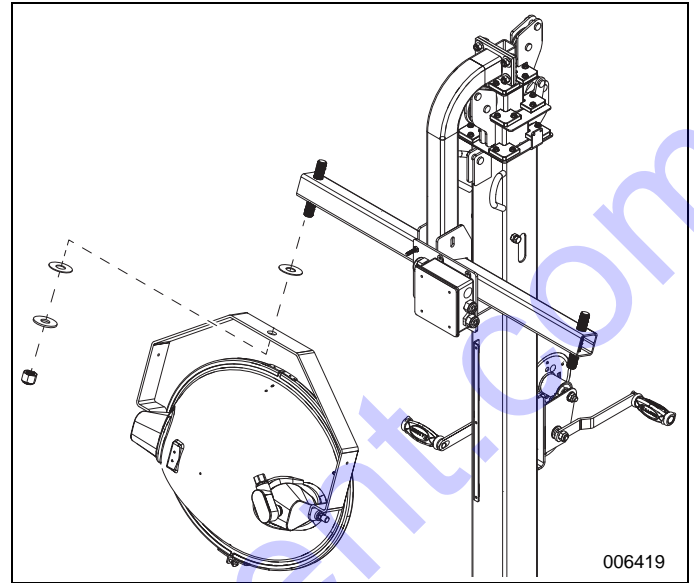

Figure 2. Light Fixture Removal
8. See **Figure 2**. Remove light fixtures from crossbar.